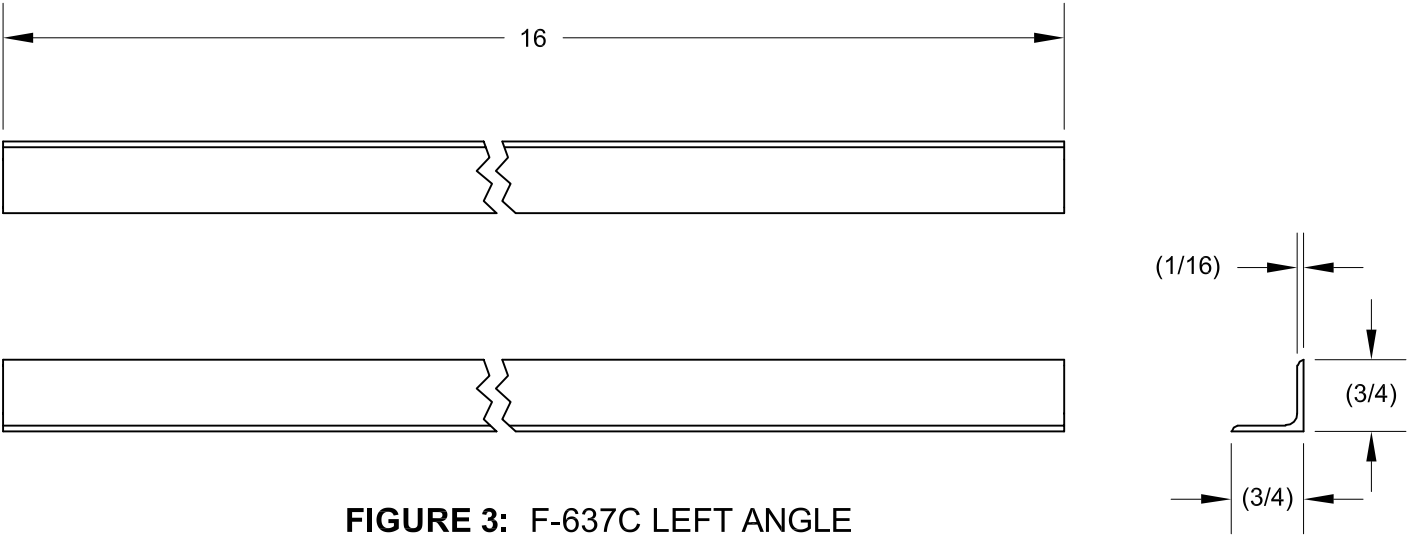

FIGURE 3: F-637C LEFT ANGLE
Step 2: Fabricate four F-637C Angles using AA6-063X3/4X3/4 and the information given in Figure 3.